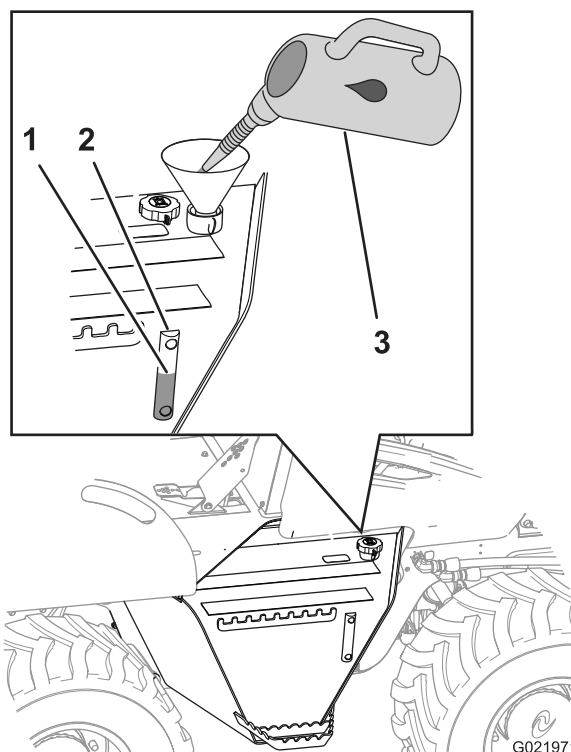

Figure 22
3. Check the hydraulic fluid level in the sight gauge located at the side of the hydraulic reservoir (Figure 22).
4. If the hydraulic fluid level is below the Add mark, remove the fill cap/breather (Figure 22), add the